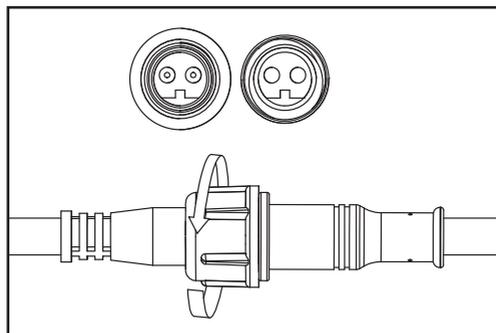

Fig. 24
- Connect one end of the extension cable (21) to the cable connector (14), and the other end to the power supply cable of the switching power supply (20). Push the sleeve towards the connection point and tighten to fix the connection (Fig. 24).